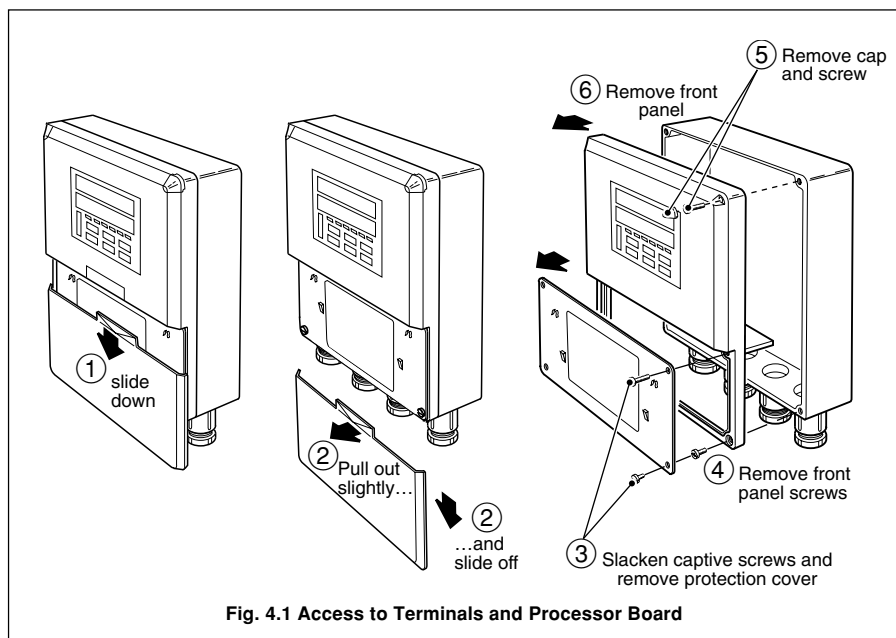

Fig. 4.1 Access to Terminals and Processor Board
4.1 Access to Terminals – Fig. 4.1
For access to terminals – refer to Fig. 4.1, steps ① to 3.
Remove the instrument front panel – see Fig. 4.1, steps ① to 6.